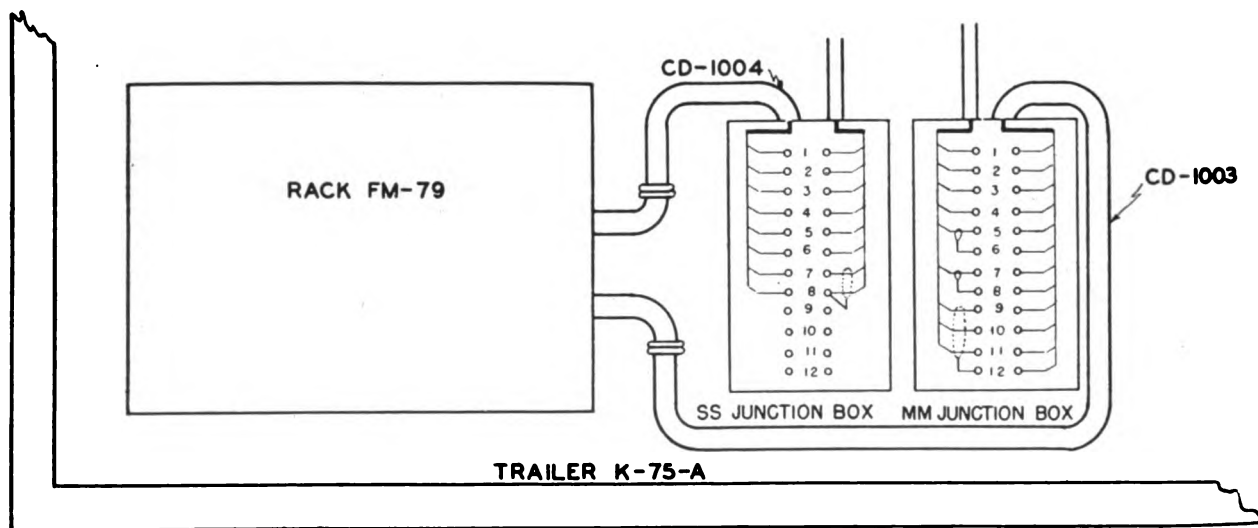

Figure 37. Junction boxes SS and MM, cording diagram. TL 35748A
b. On some sets the position of the junction boxes has been interchanged. The box which has only eight of the terminals used is junction box SS. The box which has 12 of the terminals used is junction box MM. The cording diagrams for the two arrangements are shown in figures 37 and 38.